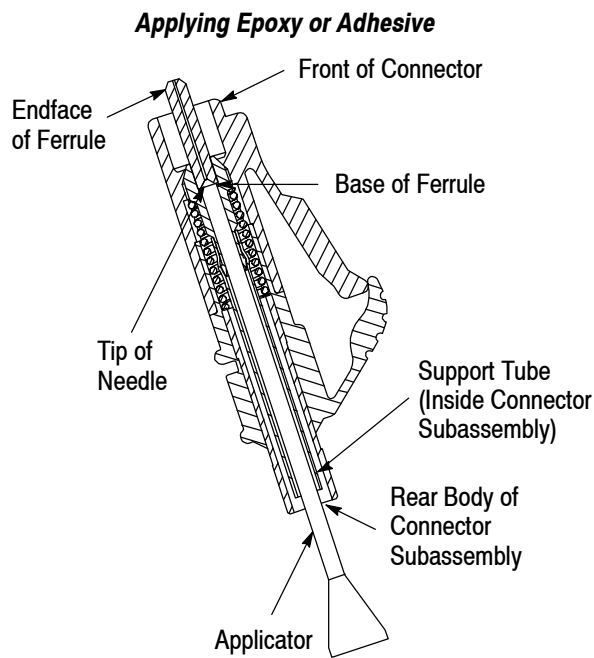

Figure 6
3. Hold the connector subassembly in an upright position, and insert the tip of the needle into the rear body and support tube of the connector subassembly until the tip of the needle touches the base of the ferrule. Refer to Figure 6.
4. Keeping the tip of the needle against the base of the ferrule, *slowly* inject the epoxy or adhesive into the connector subassembly until a small bead of epoxy or adhesive exits from the endface of the ferrule. See Figure 6.